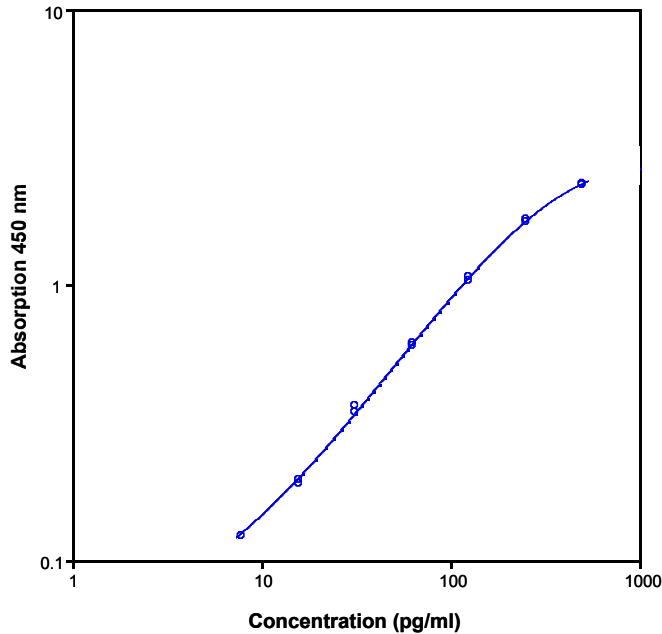

Fig. 8 Representative standard curve for human CD40 ELISA. Human CD40 was diluted in serial 2-fold steps in Sample Diluent.
- A representative standard curve is shown in Figure 8.